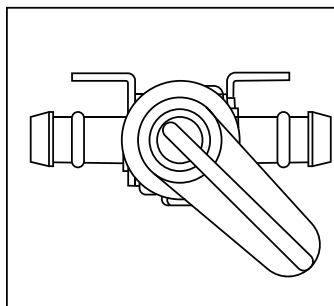

FIGURE 1
4.2.1 Move the water valve to the closed position to stop the flow of liquid pesticide. See Figure 1&2.
To adjust water flow use the water valve to increase the flow of water from the tank. See Figure 1.